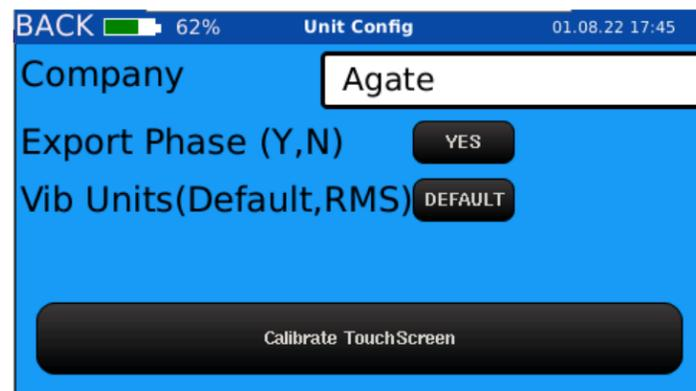
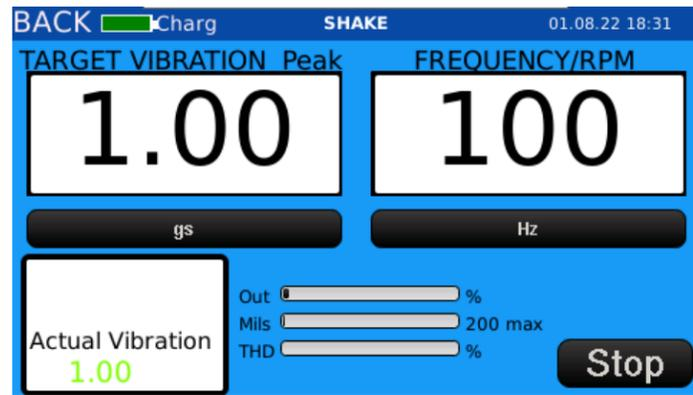

Figure 56. Enter company name, show/hide phase data, change output units, and calibrate touchscreen
Figure 59. Default units showing on Shaker Screen
1. Select the **Company** field and enter the company name (Figure 56).
1. Select the **Calibrate TouchScreen** button to calibrate the touchscreen (Figure 56).
1. Click the **Yes** button to show phase data in the automatic test table view (Figure 56 and Figure 57).
1. Click the **Default button** to choose the default units (Figure 56 and Figure 59).
2. Click the **RMS button** to choose RMS units (Figure 56 and Figure 60).